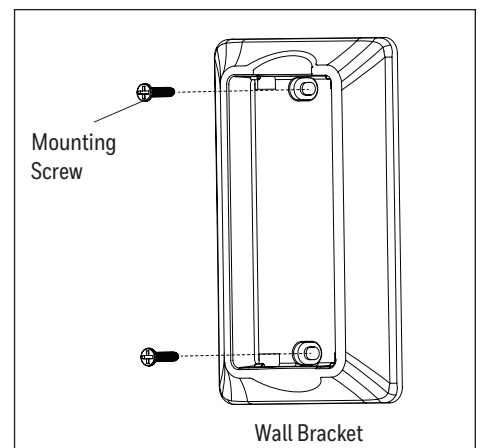

Figure 5.9
9. If desired, the wall bracket in remote pack can be installed to a wall using the provided mounting screws. The remote can be stored in the wall bracket for easy access (Figure 5.9).